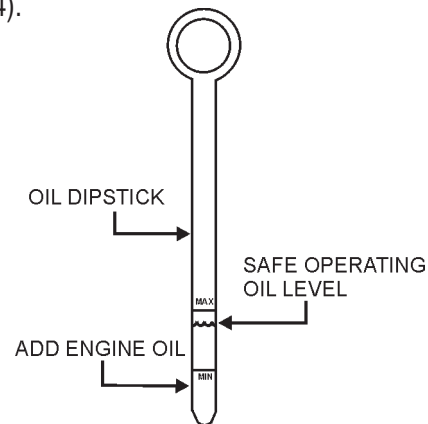

Figure 14. Engine Oil Dipstick
3. Check the engine oil level as shown on the dipstick (Figure 14).